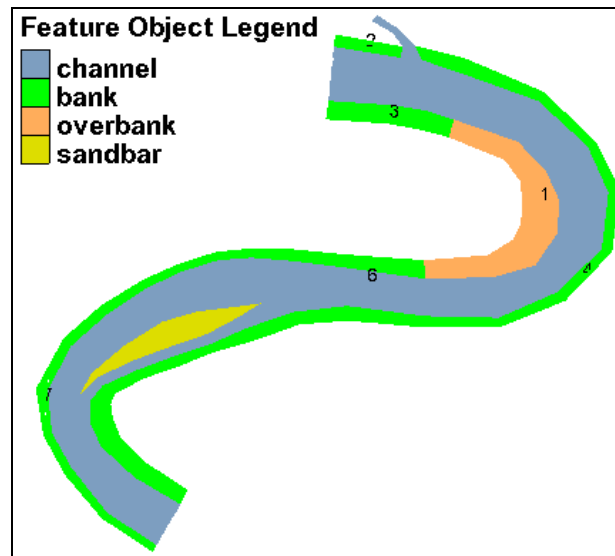

Figure 4 Material properties for each polygons
7. Repeat steps 4–6 for each polygon, making sure that each polygon is assigned the appropriate material property as indicated in Figure 4.